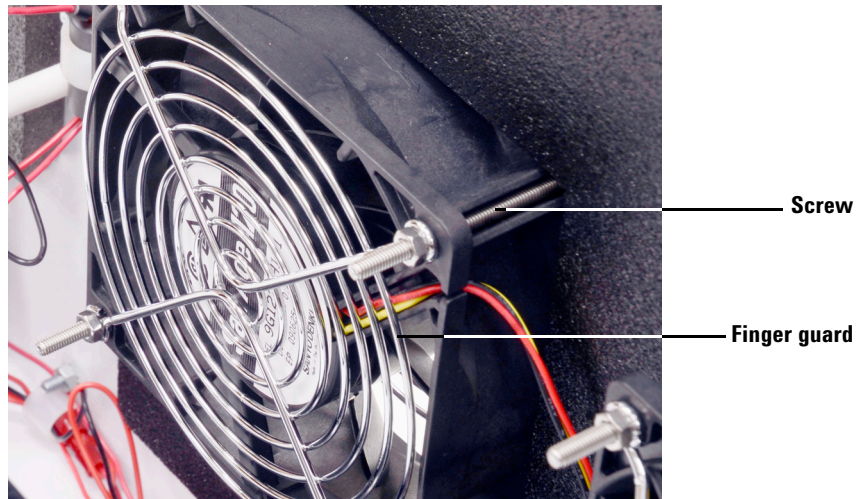

Figure 9 Fan, showing installed finger guard, screw, and bolt
- 4 Install the fan and inside finger guard over the screw. Install the remaining screws (see Figure 9).